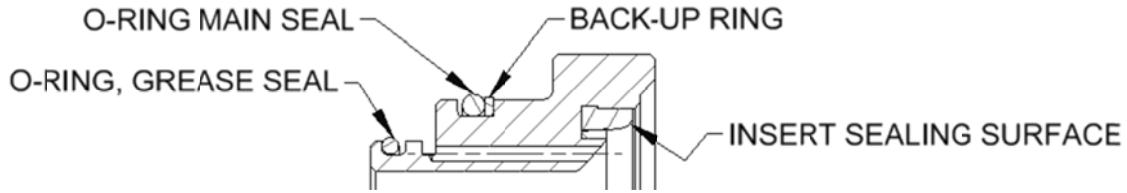

Figure 10 – 370D6 Seat Assembly
- Inspect the seats, paying careful attention to the insert sealing surfaces. Reject and replace all seats with dings, scratches, or any other physical defects. Install the O-rings and the backup ring. The back-up ring should be on the head side of the seat as shown in Fig. 10. Apply lubricant until completely covering the O-rings and back-up ring.